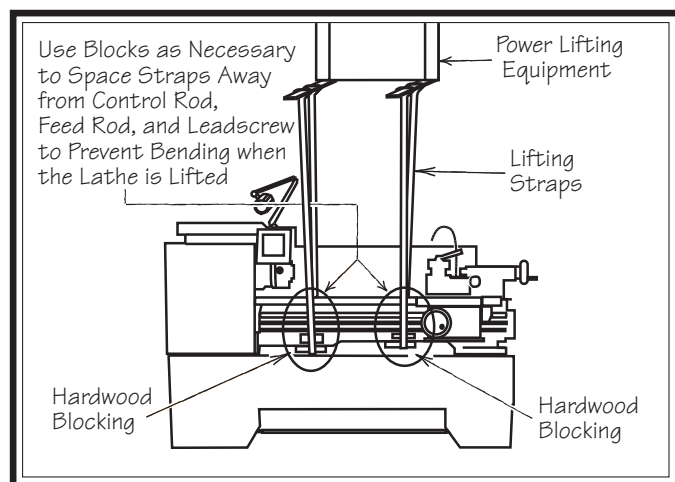

Figure 16. Example of lathe setup for lifting.
6. Attach the lifting straps to the power lifting equipment (see **Figure 16** for an example).